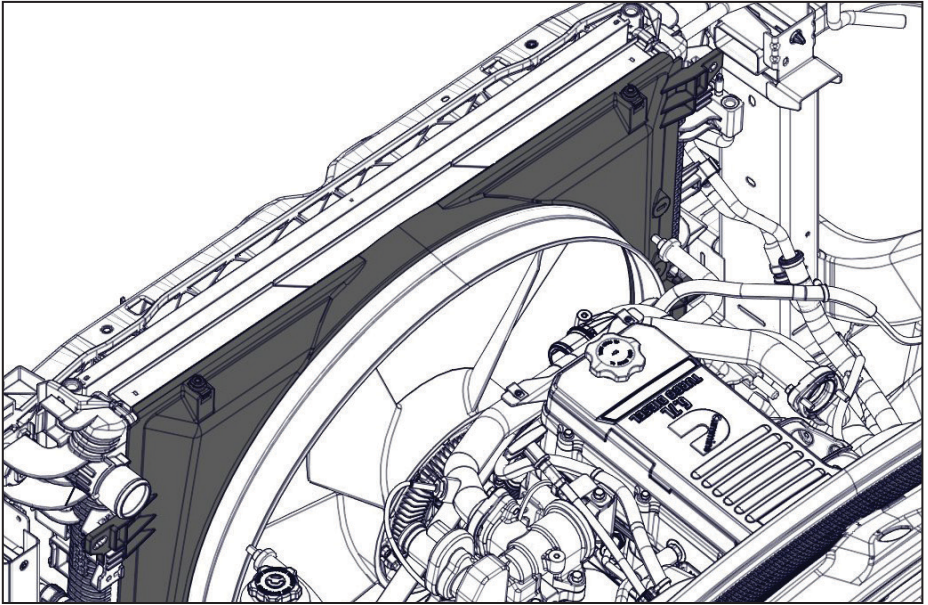

Figure 10 — Remove fan shroud
- Remove the fan shroud (Figure 10).